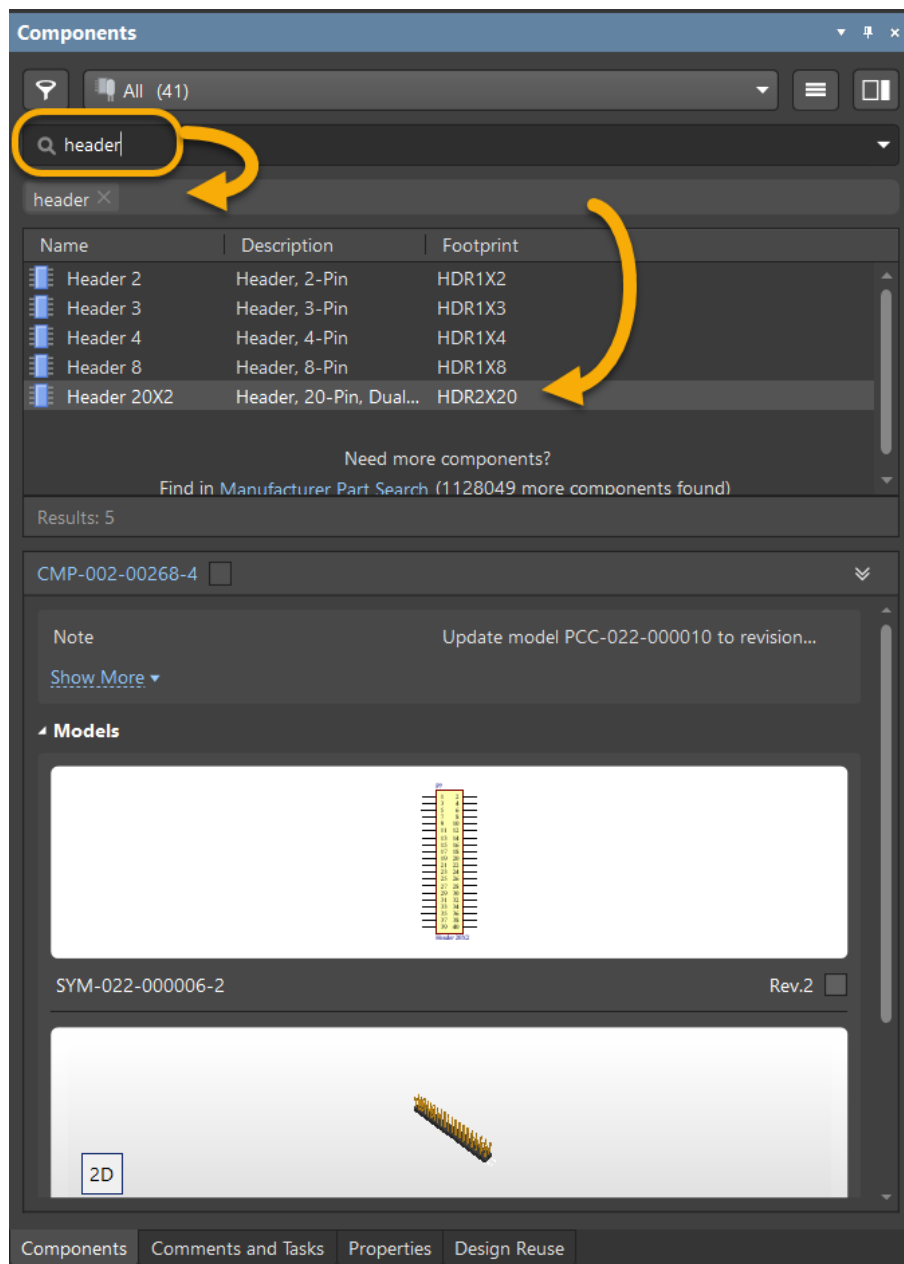

Figure 9. Header 20x2
16. If needed, scroll down the list of components to find the 40-pin I/O Connector called `Header 20x2`, as shown in Figure 9.